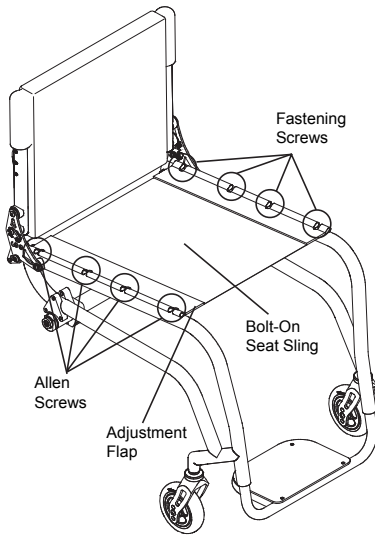

Figure 61
3. Remove all Allen screws that attach the seat upholstery to the chair frame. See Figure 61.